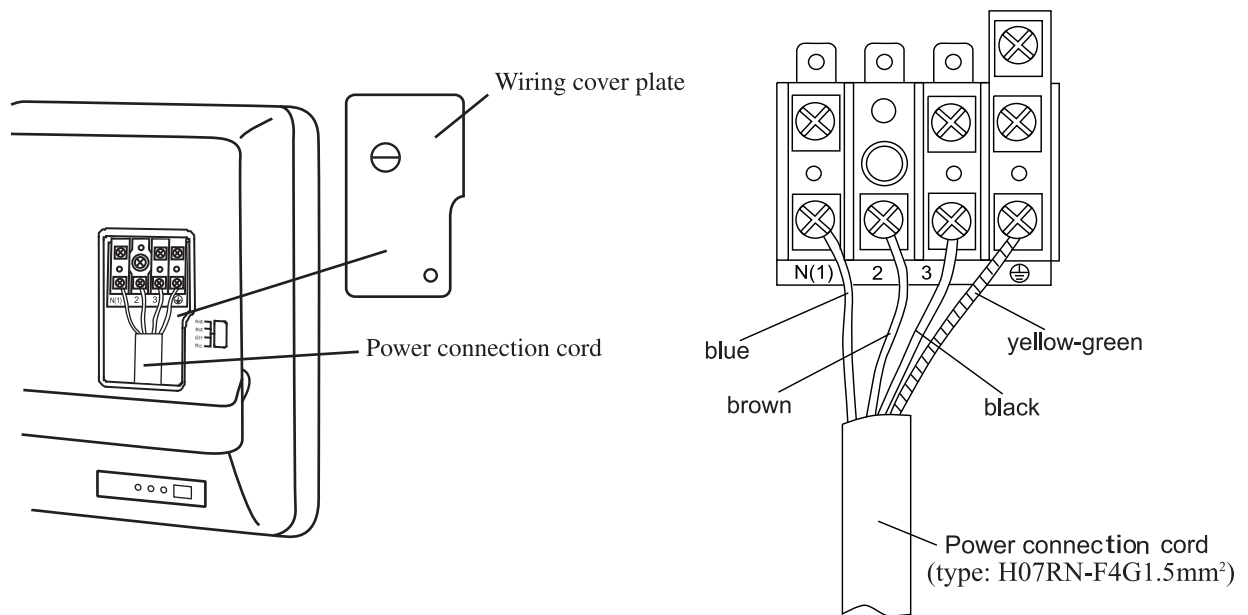

Fig.4
2. Remove the wiring cover. (Fig.4)
4. Connect the blue wire of the power connection cord to the terminal “N(1)”, the brown one to “2”, the black one to “3”, and the yellow- green one (earth wire) to “ \perp ” as shown in Fig.4.